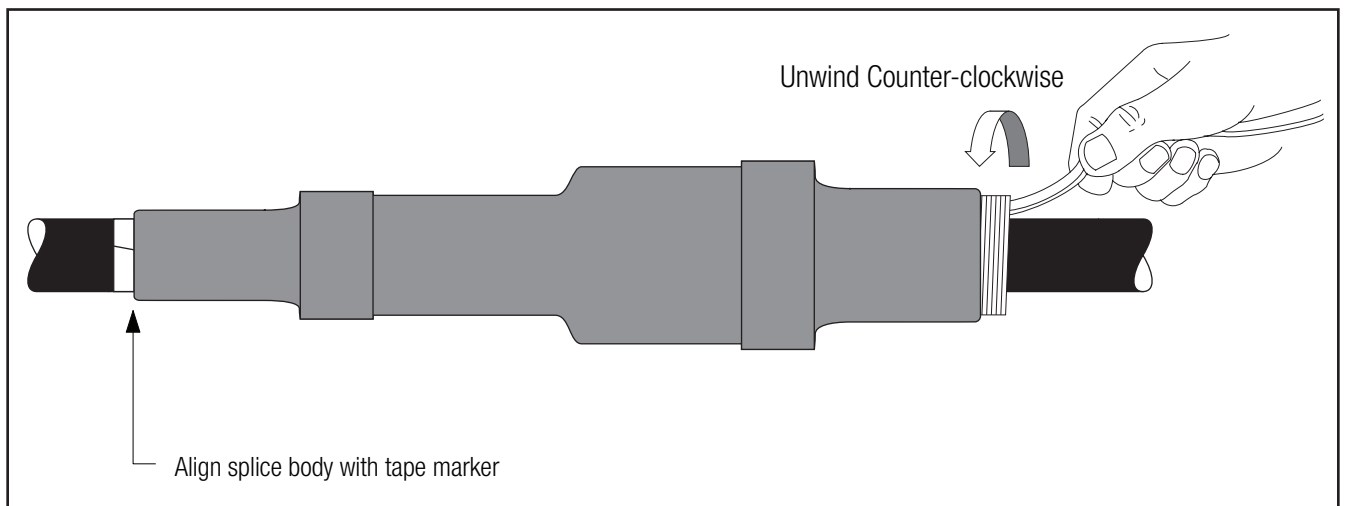

Figure 16
- 4.5 Position the splice body over connector area, aligning end of the splice body (not the core) at the center of the tape marker. Slowly start to remove the splice core by pulling and unwinding the loose core end counterclockwise, allowing only $\frac{1}{4}$ " (6 mm) of the splice to shrink onto the tape marker. Carefully slide the splice body off the tape marker by pulling and twisting until the entire tape marker is exposed. Continue removing the core to complete the splice body installation (Figure 16).